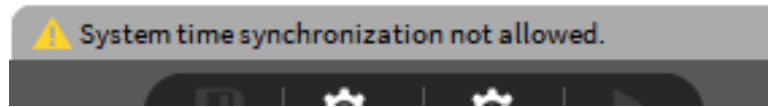

Fig. 6.8: Error message *System time synchronization not allowed*
**Note:** OXYGEN must be started with Administrator rights to use the system time synchronization function as this functionality changes the system settings of the PC. If OXYGEN is started without Administrator rights but this functionality is activated, the error message *System time synchronization not allowed* (see Fig. 6.8) will be displayed in the lower right corner of the software. note that this setting is not